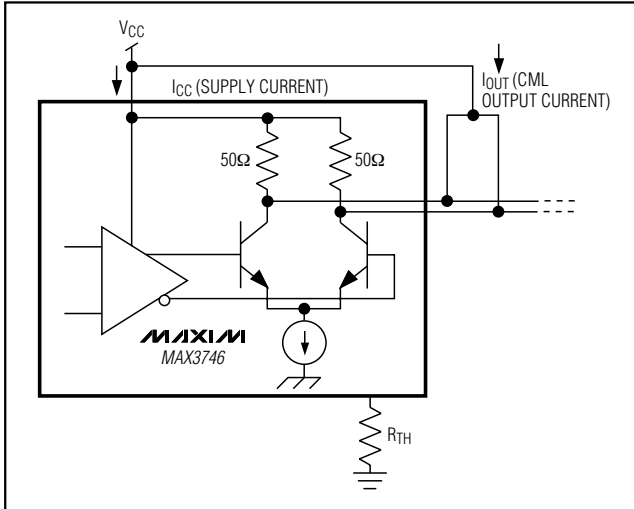

Figure 1. Power-Supply Current Measurement
**Note 5:** The supply current measurement excludes the CML output currents by connecting the CML outputs to a separate  $V_{CC}$ . (See Figure 1.)